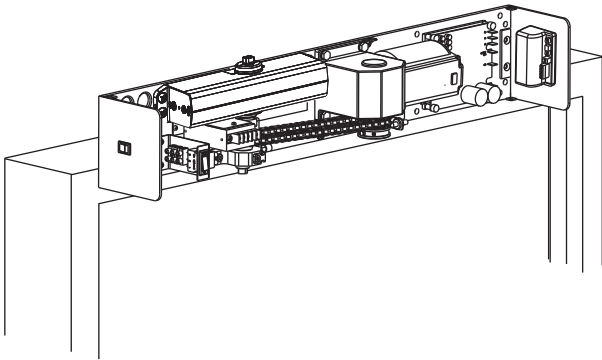

Figure 17
B. Mount unit to frame. (Figure 17)
- Secure unit to frame with six (6) screws.